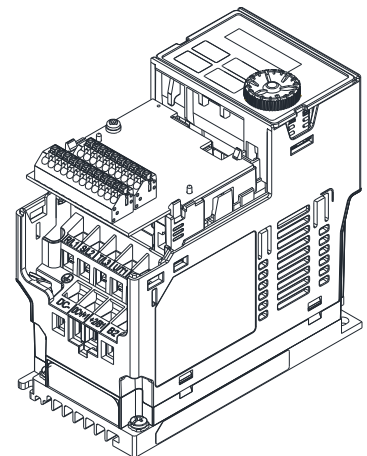

Figure 8-14
6. As shown in the Figure 8-14, assembly is completed.